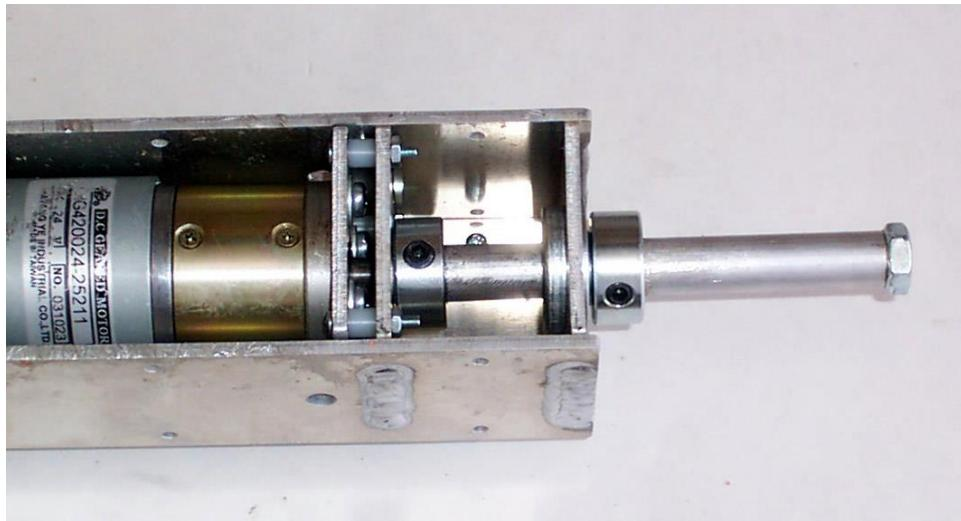

Figure 8: Motor Shaft Insertion
7. Install the shaft and the bearing into the motor housing and onto the motor shaft as shown in Figure 8. The bearing needs to be pressed into the hole, two pairs of pliers or channel locks work best for this (pinch the flange to the inside face of the housing). If you only have one pair just work it back and forth until it's inserted. If the housing bearing plate is bent during this operation straighten it out before proceeding.
5. Install the shaft and the bearing into the motor housing and onto the motor shaft as shown in Figure 8. The bearing needs to be pressed into the hole, two pairs of pliers or channel locks work best for this (pinch the flange to the inside face of the housing). If you only have one pair just work it back and forth until it's inserted. If the housing bearing plate is bent during this operation straighten it out before proceeding.